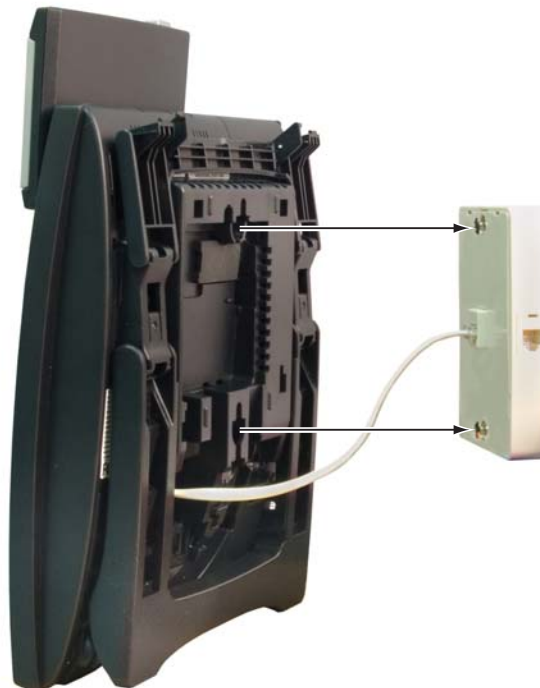

Figure 4-45: ATTACHING TO THE WALL-MOUNT PLATE
4.20.2 Installing the Keypad Wall-Mount Bracket (Figure 4-45 - Figure 4-47)